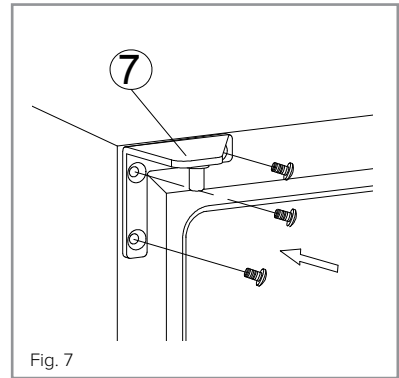

Fig. 7
4. Screw the alternative left top hinge "7", included in the fittings, onto the left hand side of the cabinet (Fig. 7).